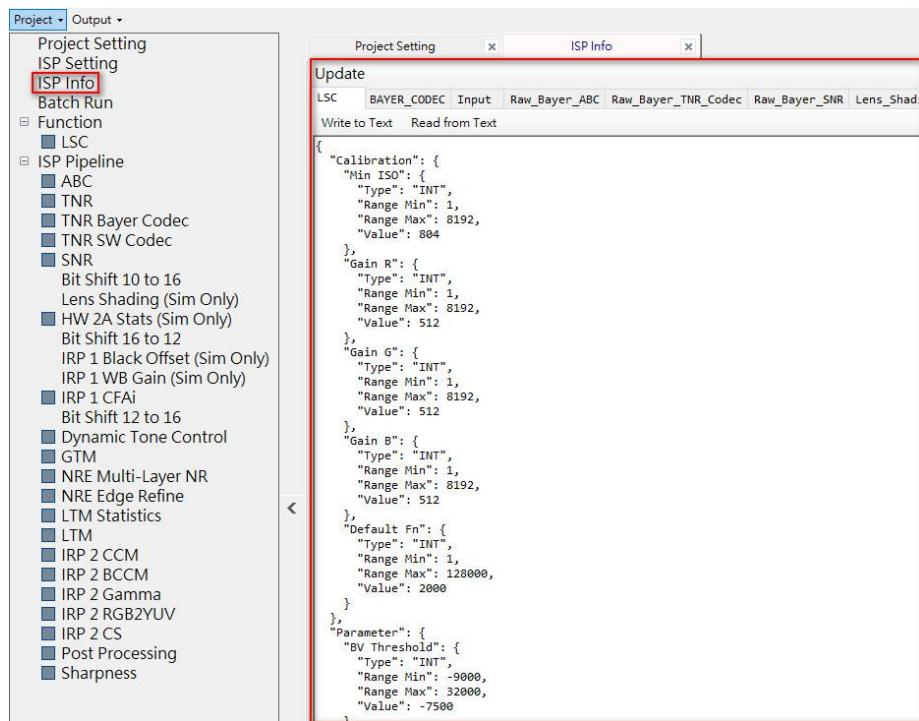

Fig. 3.2 ISP info page
In order to start simulation, please entry the ISP setting page, press the "Load" button in the "Image" tab to load a Raw file for image quality simulation. Note that the format of the loaded file must be consistent with the format setting in the "Project Setting" page. Then select the "Condition" tab (錯誤! 找不到參照來源。), input the metadata of raw, and press the "Update" button. The tool will take a while to process the raw image. AL2500 also provides the ISP information which list the Image Quality (IQ) parameters in json format (Fig 3.2).